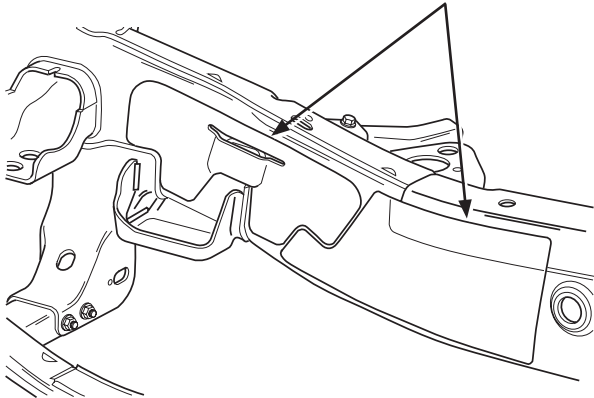

FIGURE 12 – (FORWARD SHIELD REQUIRED ON VEHICLES EQUIPPED WITH 3.5L TIVCT OR 5.0L ENGINES ONLY, REAR SHIELD REQUIRED ON ALL VEHICLES)
- d. The right hand side adhesive backed frame rail heat shields as required. (Refer to Figures 12 and 13). (P/N's FL34-5E094-A*, FL34-5E094-B*)